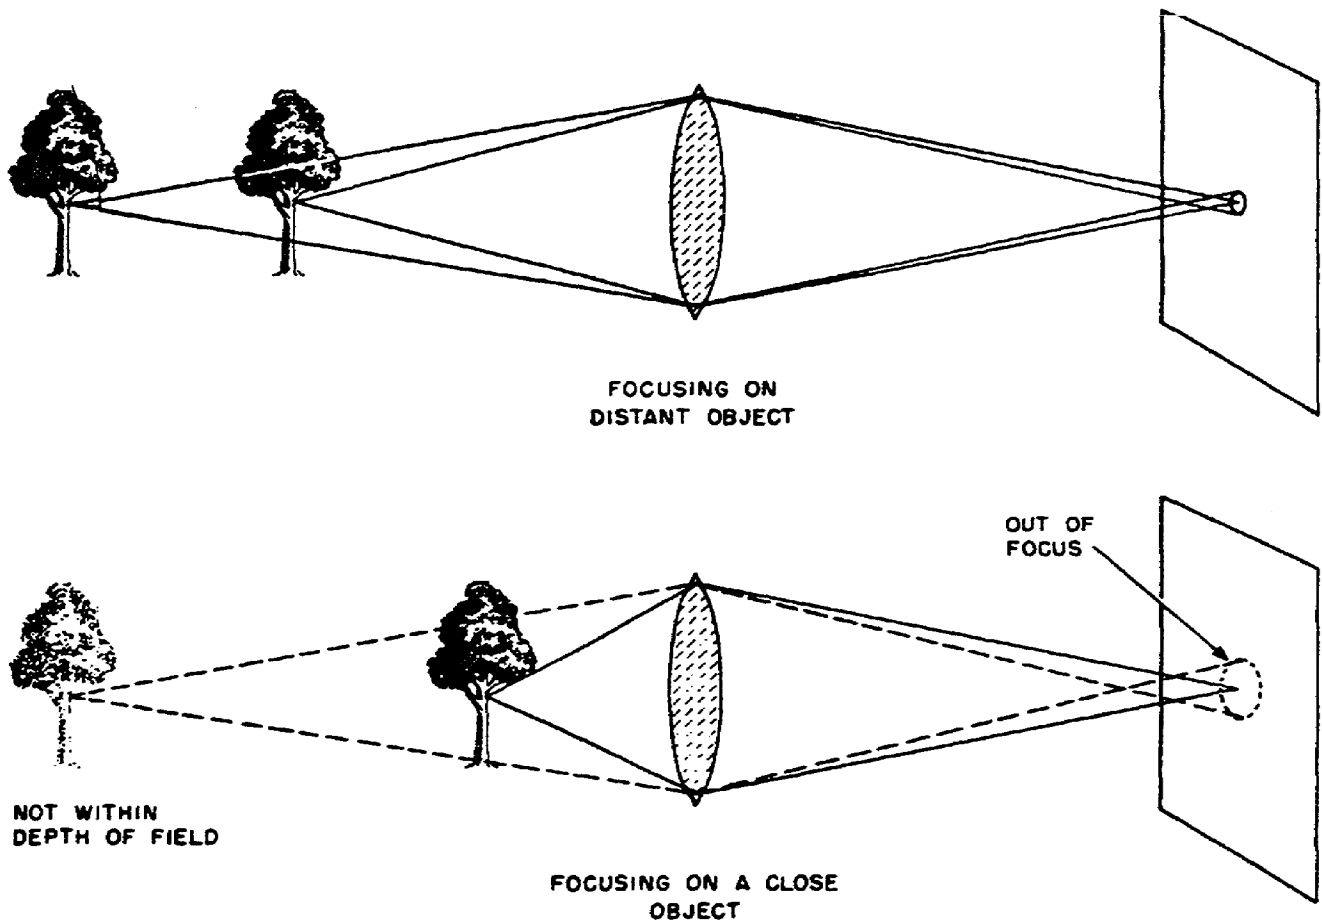

Figure 2-25. Effects of distance on depth of field.
d. If a lens is focused on a nearby object (short distance setting), the depth of field is also short. If the distance setting is increased (lens focused on a more distant object), the depth of field increases (fig 2-25). For this reason, it is important to focus more accurately for pictures of nearby objects than for distant objects.